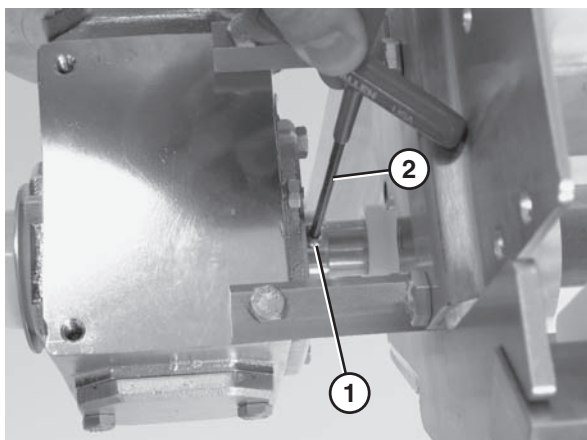

Figure 14
4. Loosen the drive spindle fasteners (**Figure 14, item 1**) located on the inside and outside of the gearmotor assembly using a hex wrench (**Figure 14, item 2**).